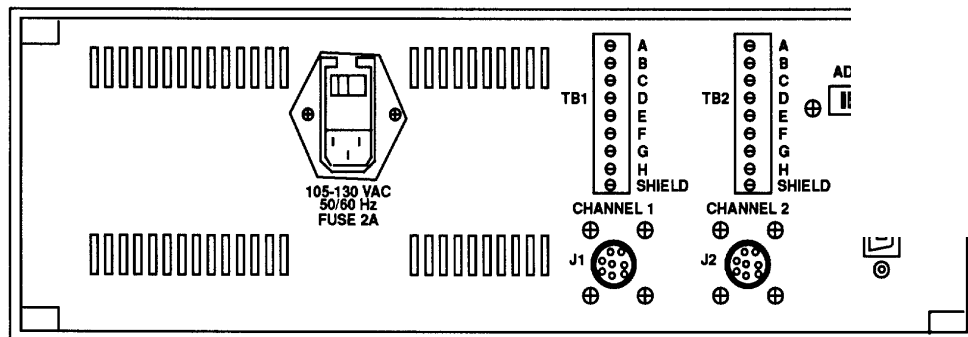

Figure 2. Force-torque - rear panel.
- e.** Connect the strain gage simulator to CHANNEL 1 (J1, fig. 2) of TI and set it to 0 percent.
- h.** Connect 115V ac power to 105-130 VAC 50/60 Hz FUSE 2A (fig. 2) power input on rear panel of TI.
- (1) With strain gage simulator set to 0 percent, set the polarity switch to the + (positive) position.
- (2) Press the **ZERO** pushbutton.
- (3) Record the displayed reading in mV/V.
- (4) Set the strain gage simulator to 10 percent.
- (5) Record the displayed reading in mV/V.
- (6) Repeat (4) and (5) above in 10 percent steps until readings have been recorded up to and to include 100 percent.
- (7) Return the strain gage simulator to 0 percent and set the polarity switch to the - (negative) position.
- (8) Repeat (2) through (6) above.
- (9) Connect the strain gage simulator to J2 (fig. 2) and set **CHANNEL** switch to select **2**.
- (10) Repeat (1) through (8) above for channel **2**.
- (11) Compare each of the displayed readings for channels **1** and **2** in mV/V to the corresponding strain gage simulator outputs recorded on the calibration chart attached to the strain gage simulator. At each point the displayed readings shall be within 0.0004 mV/V of the strain gage simulator output; if not, perform **b** below.
- (2) Activate the calibration mode by pressing the 0 key.
- (3) With menu scrolling, select **AUTO SCALE VTEST** calibration mode **6**.
- (4) Connect strain gage simulator to J1 (fig. 2) then press **E** key.
- (5) Set **CHANNEL** switch to select channel 1 then press **E** key.
- (6) Set **MODE** switch to **STATIC** then press **E** key.
- (7) Set polarity switch to + (positive) position on strain gage simulator and ensure simulator is at 100 percent.
- (8) Enter the value recorded on the strain gage simulator calibration sheet for +100 percent.
- (9) Set strain gage simulator to 0 percent then press **E** key.
- (10) When **SET SIMULATOR = 100%** is displayed, set strain gage simulator to 100 percent then press **E** key.
- (11) The readout will display the scale factor for channel 1. Press **E** key to continue.
- (12) Connect strain gage simulator to J2 (fig. 2) then press **E** key.
- (13) Set **CHANNEL** switch to select channel **2** then press **E** key.
- (14) Repeat (8) through (10) above.
- (15) The readout will display the scale factor for channel **2**. Press **E** key to continue.
- (16) Connect strain gage simulator to J1 (fig. 2) and set **CHANNEL** switch to select channel 1.
- (17) Set strain gage simulator to 0 percent then press **E** key.
- (18) Perform a(2) through (11) above and, if readings are still not within specified limits, perform power supply check.